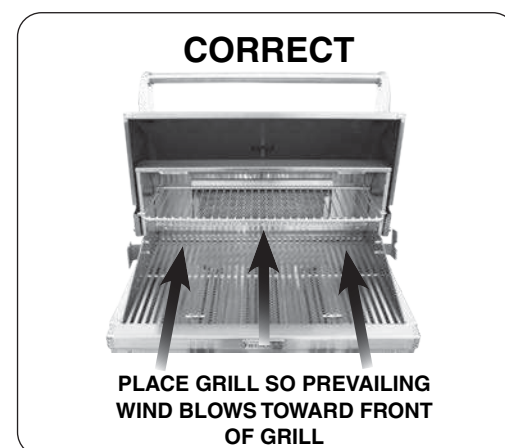
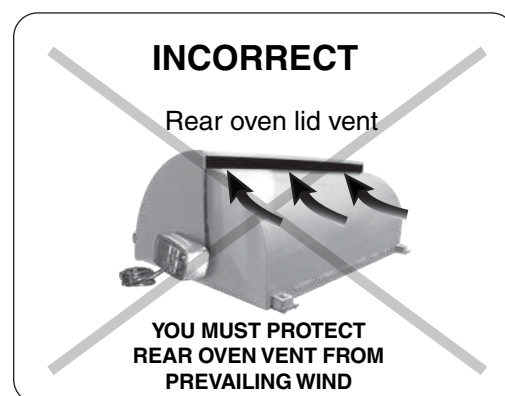

Fig. 12-3 Airflow direction - CORRECT
Fig. 12-4 Airflow direction - INCORRECT
**CAUTION:** Wind blowing into or across the rear oven lid vent (Fig. 12-4) can cause poor performance and/or dangerous overheating. Install the grill so that the prevailing wind blows toward the front of the grill (Fig. 12-3). **A wind deflector is included (pre-installed) to assist in proper airflow during windy conditions.**